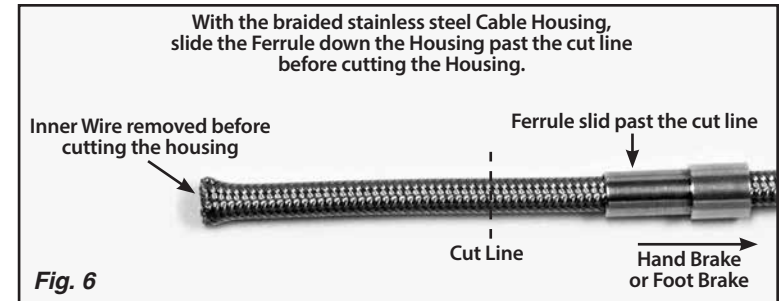

Fig. 6
**Step 6:** It will be necessary to shorten the new connector cable housing. **Make sure that the inner wire is removed from the cable housing.** Mark the cable housing where it lines up with the cable adjuster. If the cable housing is braided stainless steel, slide the ferrule up the housing towards the dash, away from the end that is being cut. **DO NOT remove the ferrule if the cable housing is braided stainless steel!** Fig. 6